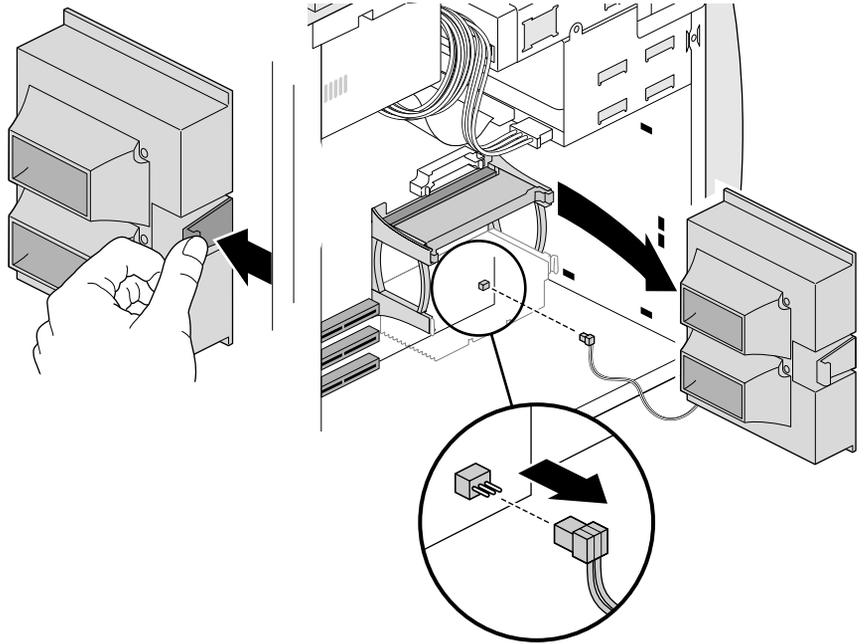

Figure 7-8 Removing the Fan
4. Remove the fan, as shown in Figure 7-8.